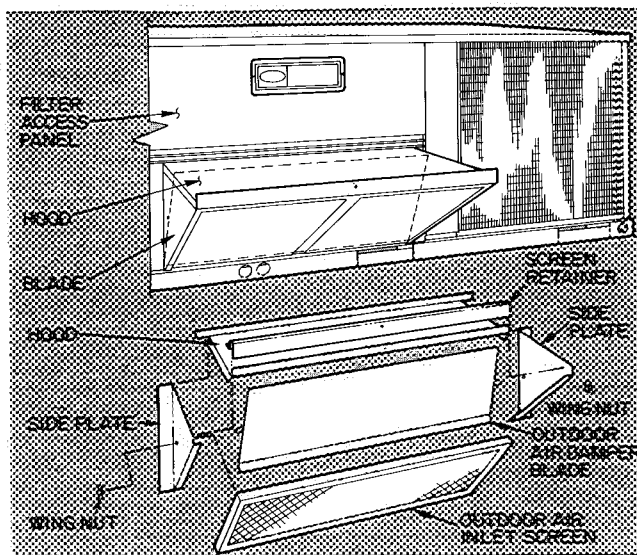

Fig. 9 — Outdoor Air Damper and Hood Installation and Details (004,005,006,007 Units)
48HDT, LDT004,005,006 and HD007 — Optional outdoor air damper is shipped with hood broken down inside of unit. See Fig. 9.
3. Using screws provided, assemble sides to the inside of the hood. See Fig. 9.